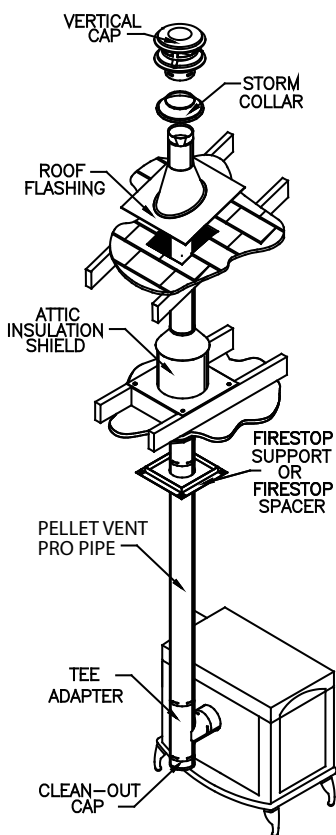

Figure 10
3. If the flue exits on back of stove and an interior installation is desired (**Figure 10**):